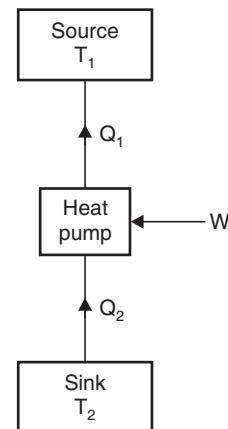

Fig. 3.39
**Solution.** The arrangement is shown in Fig. 3.39.